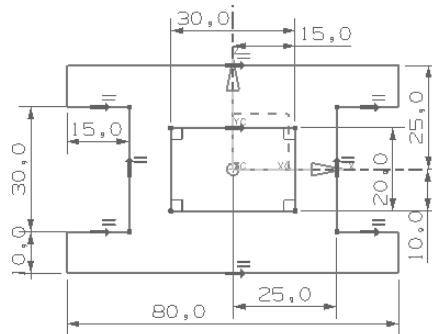

Figure 3-53 The resulting sketch after adding the required dimensions and constraints
4. Select the right vertical line of the rectangle and place the dimension on the right of the sketch. Next, modify the value to **20** and press ENTER, refer to Figure 3-53.
5. Select the lower horizontal line of the rectangle and the horizontal axis. Place the dimension on the right of the sketch. Next, modify the dimension value to **10** and press ENTER, refer to Figure 3-53.
6. Select the right vertical line of the rectangle and the vertical axis. Place the dimension above the sketch. Next, modify the dimension value to **15** and press ENTER, refer to Figure 3-53. The completed sketch is shown in Figure 3-53.